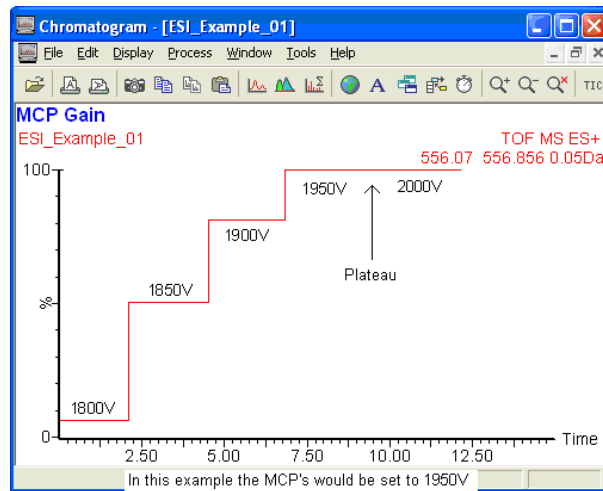

Figure 23 - Example of detector gain measurement
13. Once the chromatogram reaches a plateau at 2200 V or less, the detector voltage on reaching the plateau is the minimum value to be used (Figure 23).